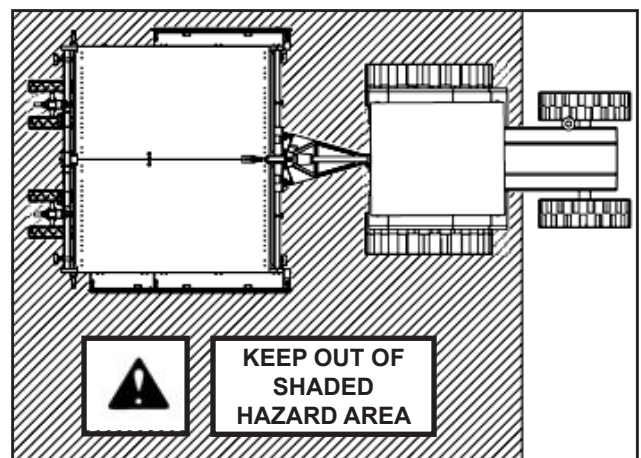

Figure 16. Hazard Area
The front universal is equipped with a constant velocity (CV) joint to allow for turning. Although the CV joint allows for sharper turns than a regular driveline, it does have some limitations. Refer to Figure 16.
Keep out of shaded area shown in Figure 16.